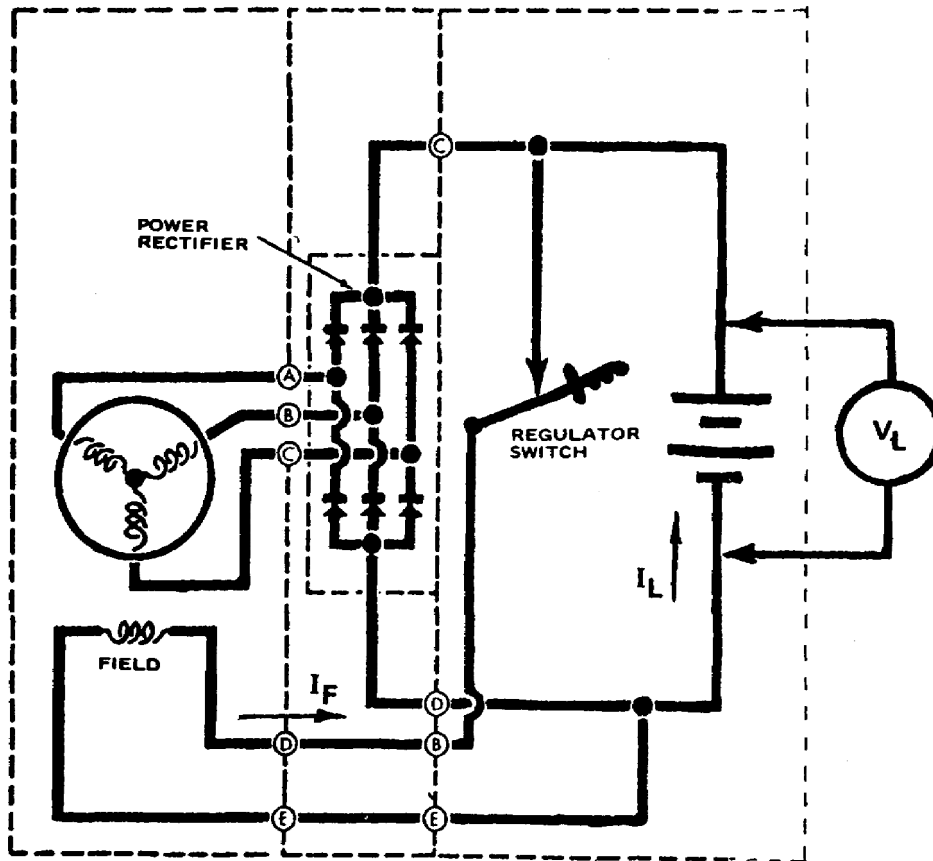
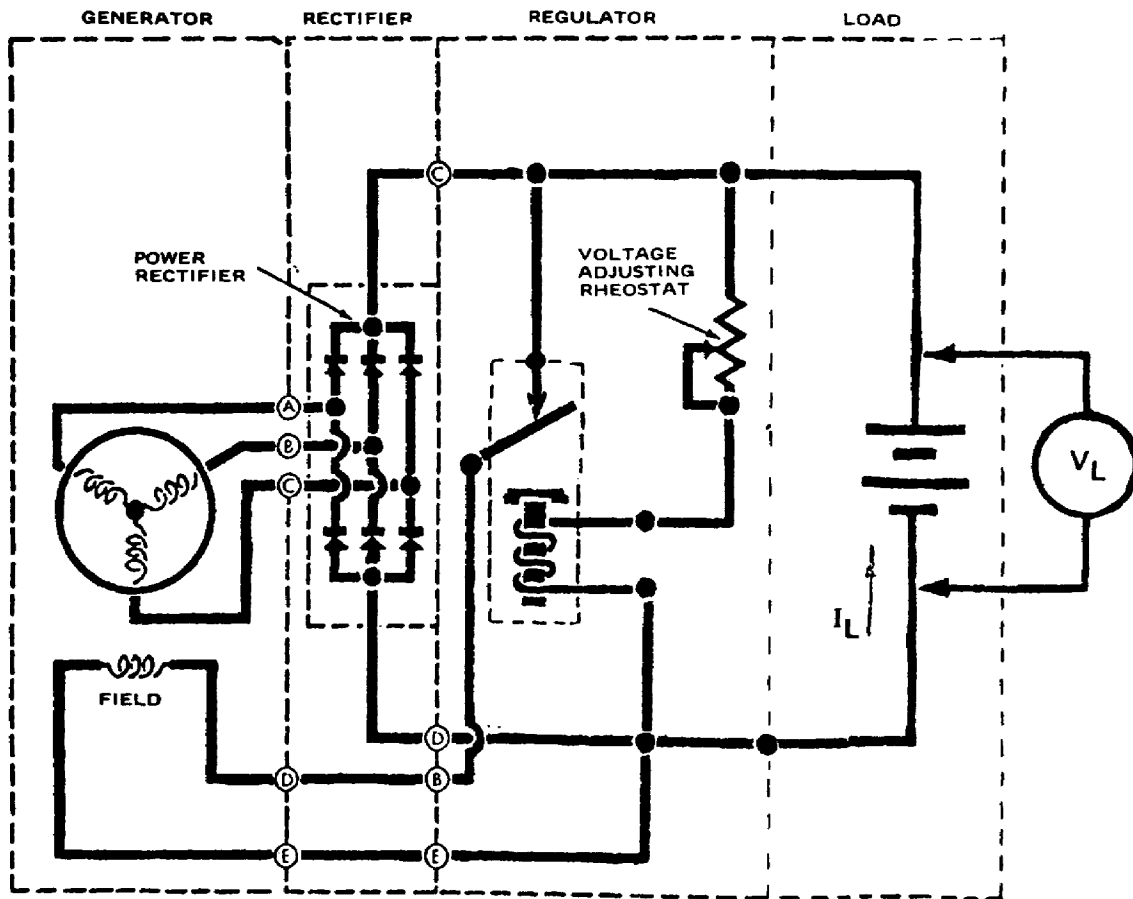

Figure 4. Regulator switch.
Figure 5. Automatic regulator.
b. Another scheme may be used to control the amount of magnetic flux in the field; this is shown in figure 4. Here the field winding is connected across the battery that is being charged. Notice that it is connected through a regulator switch.
(1) When the voltmeter indicates above normal, we open the switch and shut off the field current (I_F). This causes the magnetic flux to decrease, thereby decreasing the output of voltage.
(2) When the voltmeter indicates below normal, we close the switch and apply the field current (I_F). The current I_F produces an increasing magnetic flux increasing the output voltage.
(3) By our observations, we can regulate the output voltage by opening and closing the regulator switch. However, an automatic system has been devised to open and close the switch, thus producing the regulator that we use today.
c. The first type of automatic regulator incorporated a relay with a set of normally closed contacts (fig 5). This is a simplified circuit but it can be used to explain the operation.
(1) The relay is voltage sensitive. Its sensitivity can be controlled, over a small range, by a rheostat or a variable resistor.
(2) When the voltage increases above normal enough current will flow through the relay to energize it. When it energizes, the field circuit is opened cutting off the current. The magnetic flux decreases lowering the output voltage.
(3) When the output voltage decreases, the current through the relay is reduced, thus applying less magnetic force to the spring-loaded contact. When the magnetic force of the relay coil is less than the force of the spring, the contact will once again close. Upon the closing of the relay contact, current once again flows through the field winding, which will cause the output voltage to increase.
(4) The opening and closing of the relay contacts are continuous; so, during normal operation, they vibrate. The rate of switching will vary according to the speed of the generator, thereby regulating the output voltage. The rate can be as low as 10 times per second and as high as 7,000 times per second.
d. There is one thing wrong with the circuit in figure 5 and that is, when the vehicle is stopped, the battery will be connected to the field winding continuously, thereby discharging the battery.
(1) Since a field winding can draw from 1 ampere to 10 amperes of current, depending on the size of the generator, it could run the battery down while the vehicle is sitting overnight.